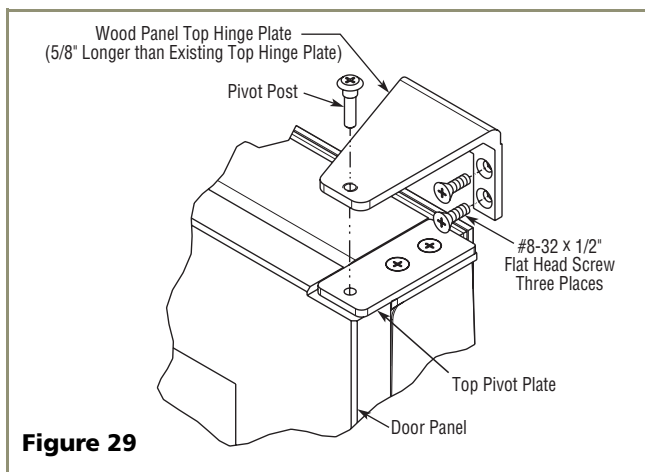

Figure 29
2. Install the new Replacement Top Hinge onto the unit (see **Figure 29**).